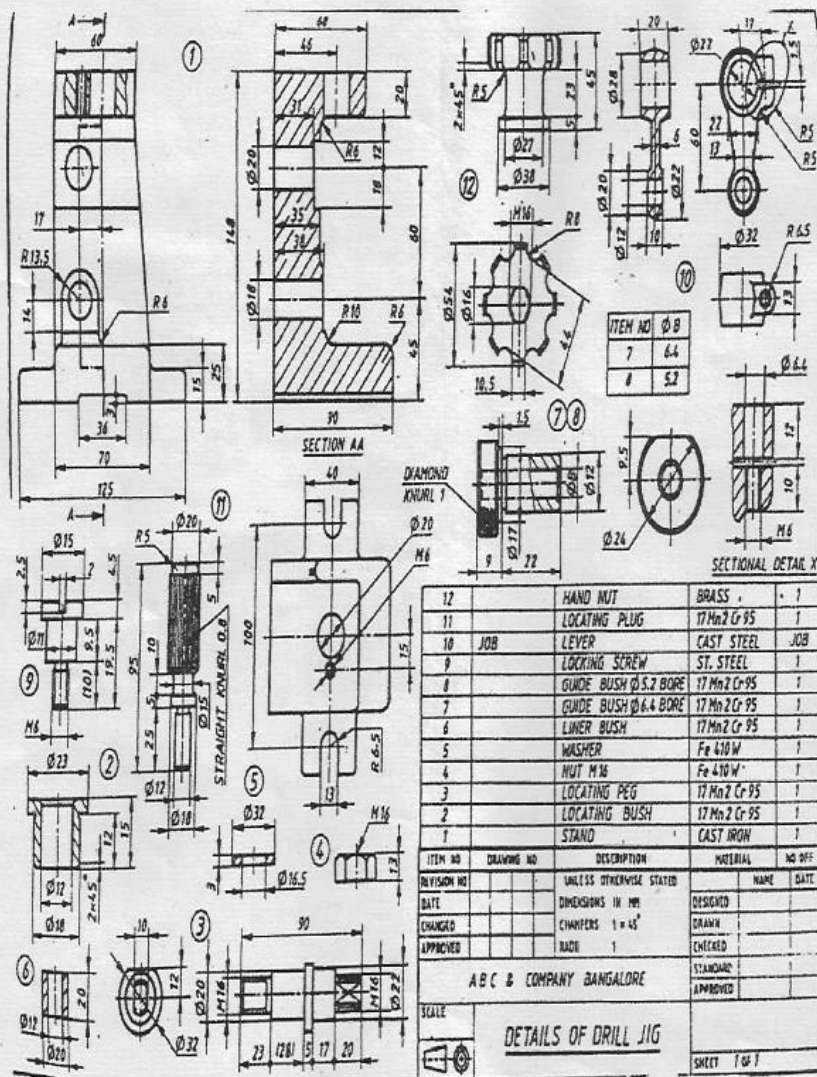

Fig.6
- (b) The details of a Drill Jig are shown in Fig.6. Assemble the jig and draw the front sectional view and right-side view. Show only important dimensions on the assembly drawing.